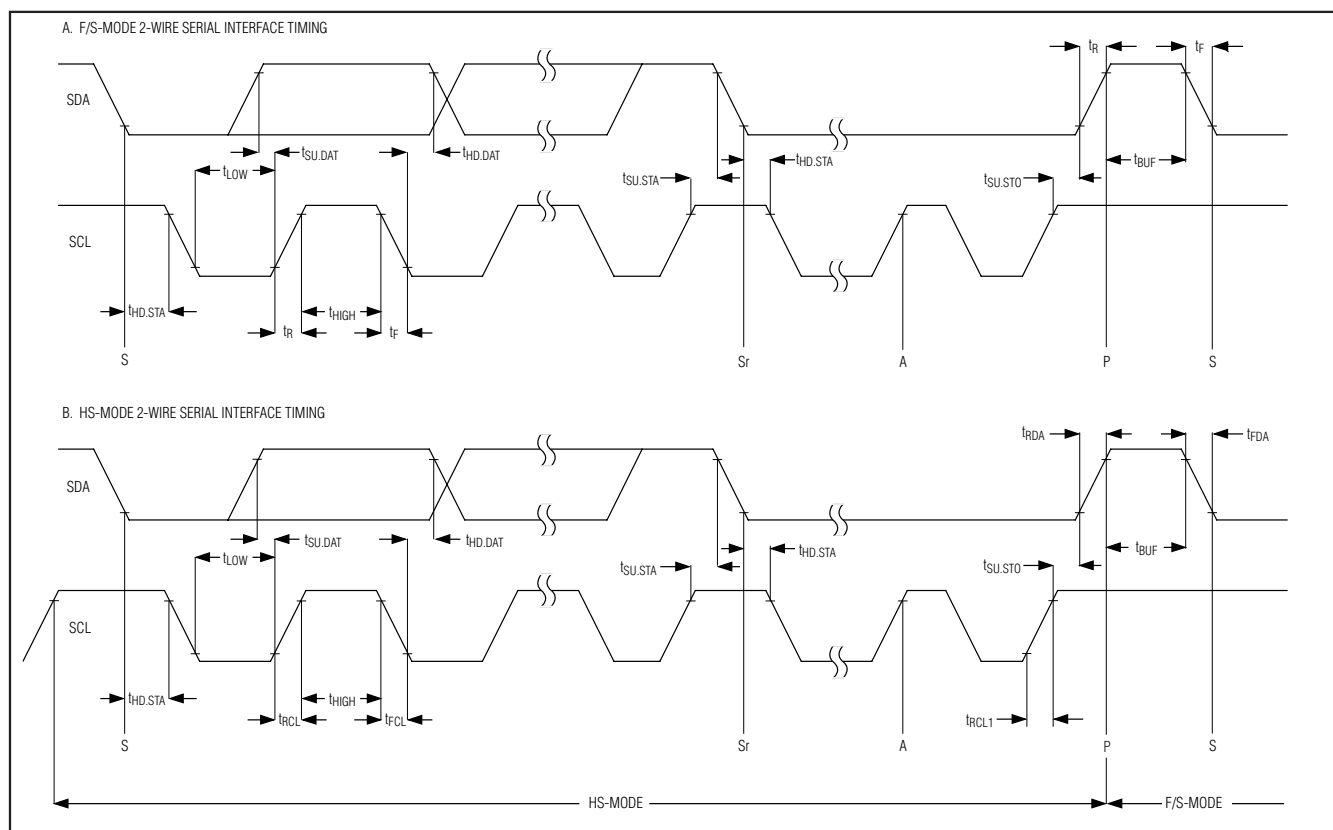

Figure 1. 2-Wire Serial Interface Timing
### TIMING CHARACTERISTICS (Figure 1)
### TIMING CHARACTERISTICS (Figure 1) (continued)
## TIMING CHARACTERISTICS (Figure 1) (continued)
**Note 10:** A master device must provide a data hold time for SDA (referred to  $V_{IL}$  of SCL) in order to bridge the undefined region of SCL's falling edge (see Figure 1).
At power-up, the MAX1236–MAX1239 bus timing is set for fast-mode (F/S-mode), which allows conversion rates up to 22.2ksps. The MAX1236–MAX1239 must operate in high-speed mode (HS-mode) to achieve conversion rates up to 94.4ksps. Figure 1 shows the bus timing for the MAX1236–MAX1239's 2-wire interface.